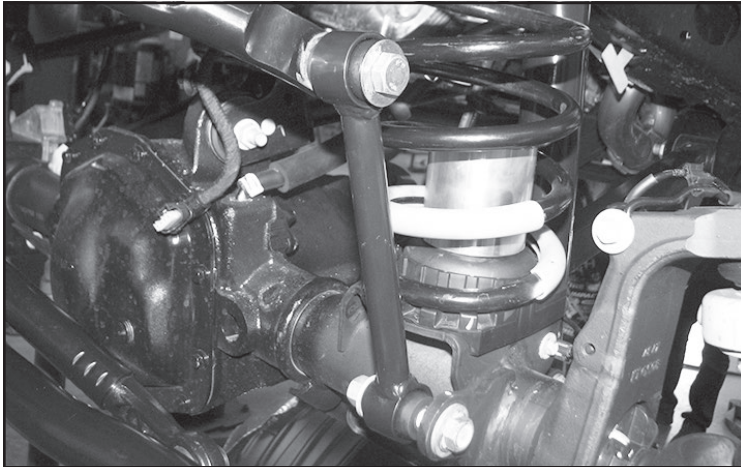

FIGURE 20 - STEP 20
20. Install FT50048 (Bushings) and FT404739 (Sleeves) into FT50261BK (Sway bar links). Then, install the links to the axle mount and sway bar using the supplied M12 x 70mm hardware for the upper location and the factory for the lower. Torque to 65 ft-lbs. **SEE FIGURE 20**